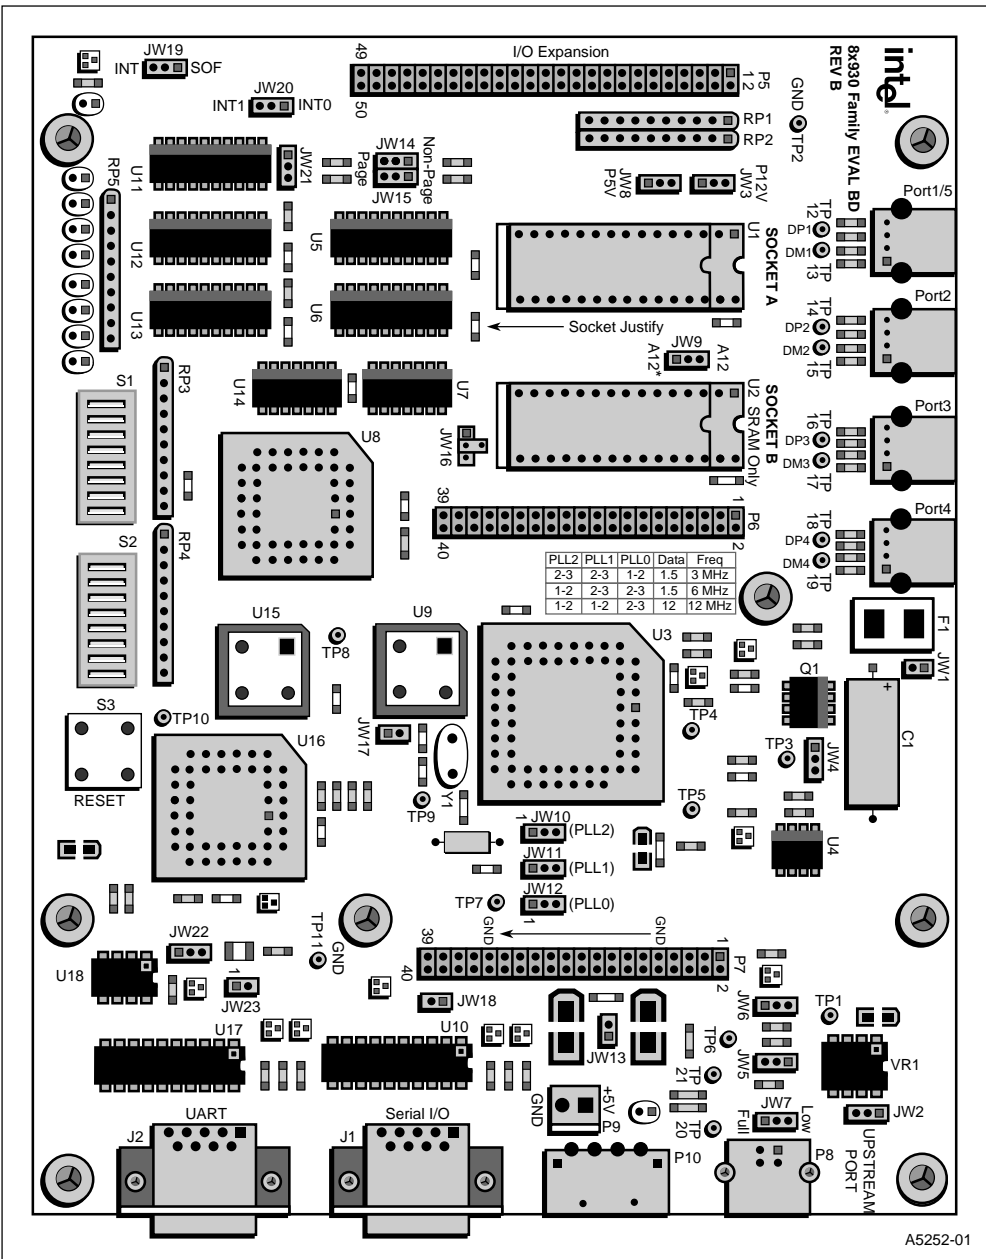

Figure A-1. 8x930 Family USB Evaluation Board Diagram
- Figure A-1 on page A-2 which labels the major board components and connectors.